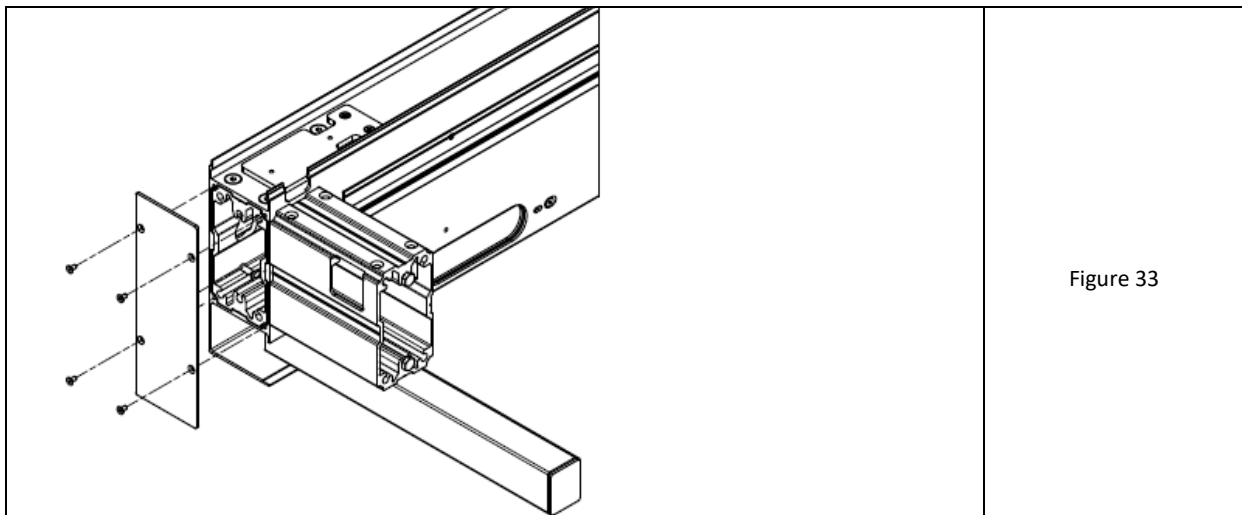

Figure 33
9. Tighten the end cap 85x245 at the end of the cross beam on the side with the angular overflow. Each for 4 screws M4x8 (fig. 33).